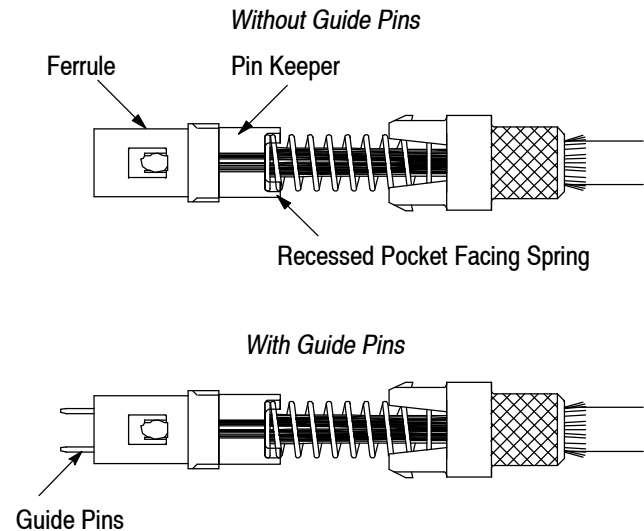

Figure 27
1. Install the pin keeper behind the ferrule. Keep the recessed pocket facing toward the spring. See Figure 27.